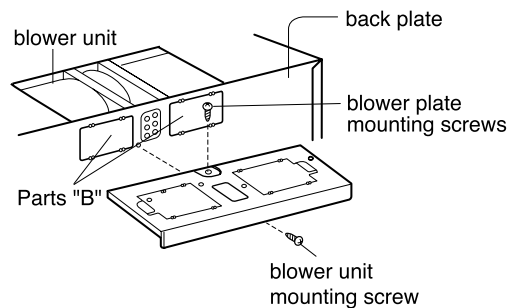

Figure 13
1. Remove one blower unit mounting screw and one blower plate screw. Remove the blower plate from cabinet. See Figure 13.